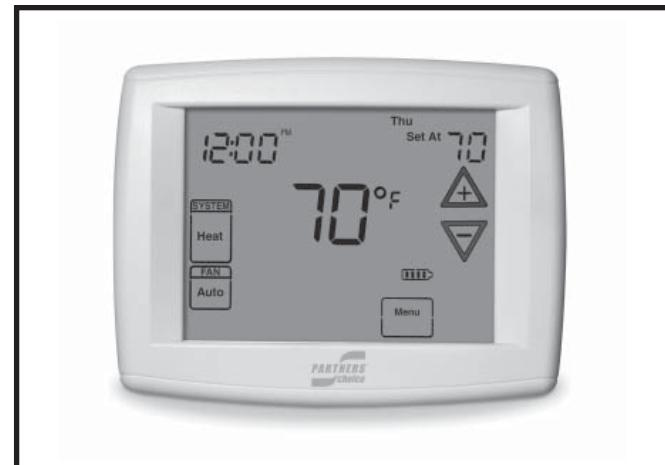

Figure 1. Typical Thermostat
1. Set the thermostat system switch to COOL and the thermostat fan switch to AUTO. (See Figure 1)
1. Set the thermostat system switch to HEAT and the thermostat fan switch to AUTO. (See Figure 1)
Set the thermostat system switch to OFF and the thermostat fan switch to AUTO. (See Figure 1)
Set the thermostat fan switch to ON (or CONT on some thermostat models). See Figure 1.